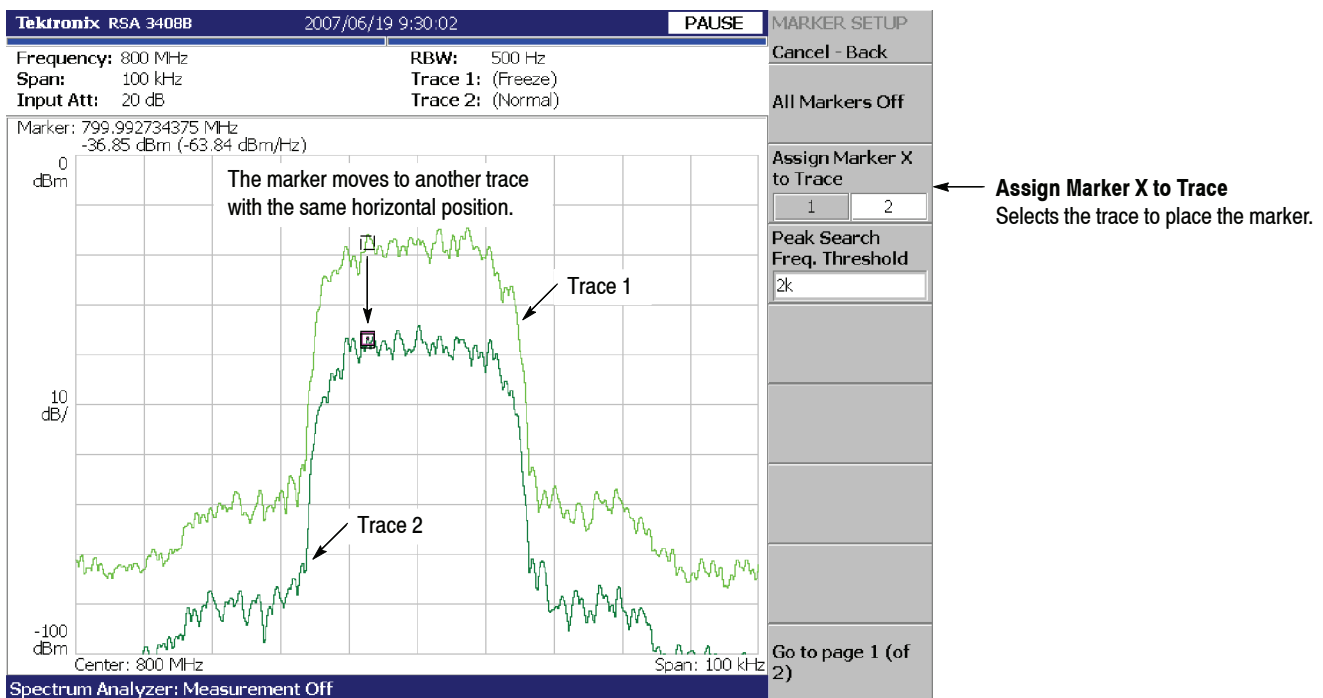

Figure 3-168: Changing the Trace
3. Press the **Assign Marker X to Trace** side key to select Trace 1 or 2, as shown in Figure 3-168.